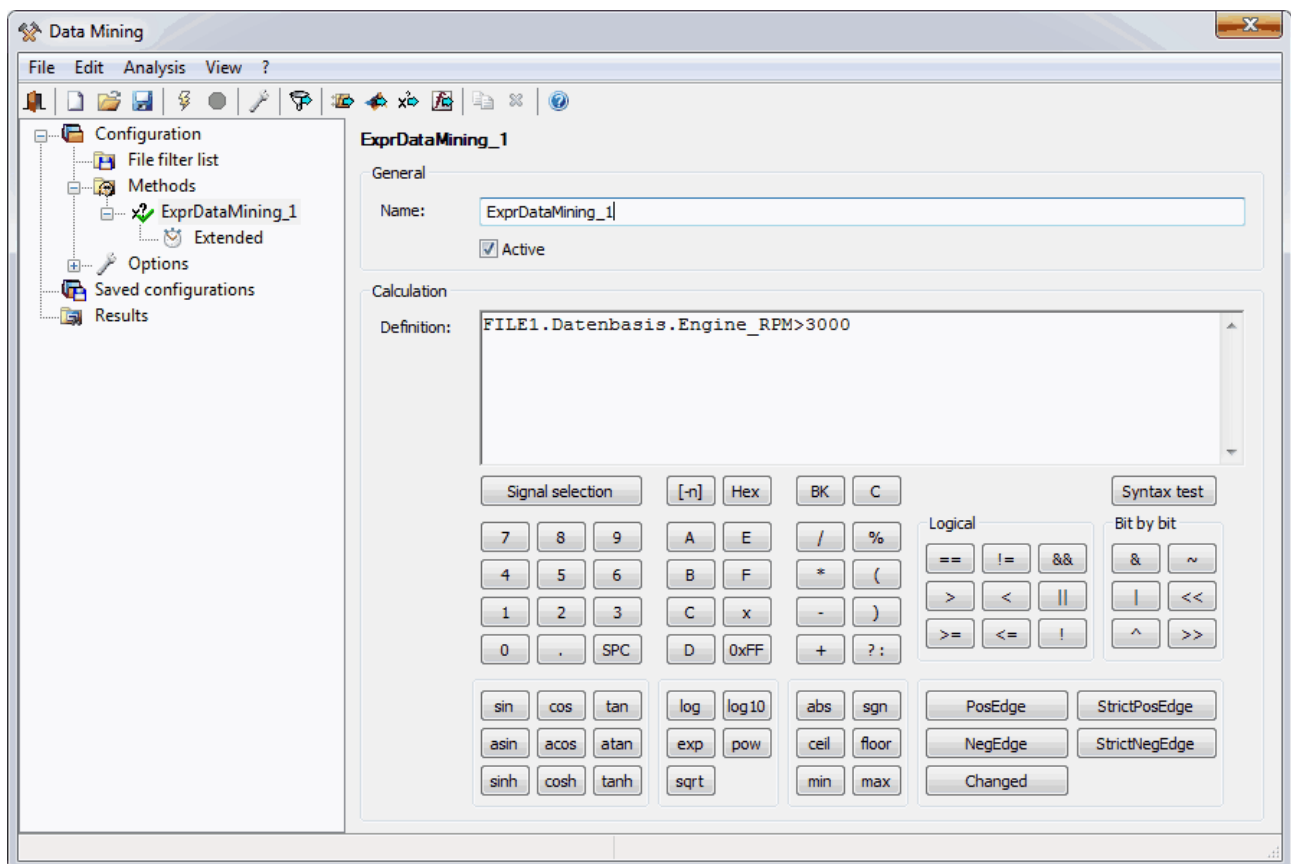

Figure 7-17: Data Mining: Creating an algebraic condition
**Definition of algebraic conditions** Figure 7-17 shows the definition of an algebraic condition. The time range to be evaluated can be set under **Extended**.